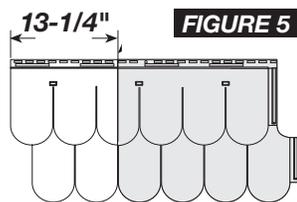

FIGURE 5
- 8) Remove 13-1/4" of the left side measured from the upper panel, cutting straight through the lower panel course as shown in figure 5. (Note the small mark on the face of the panel.) Drill a 3/16" hole in the center of the nail hem and nail the siding through this hole to control the direction of expansion and contraction. The 13-1/4" spacing provides the farthest separation of overlapping courses.